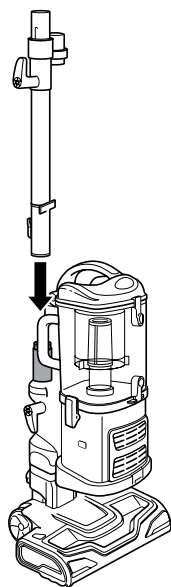

Fig. 9
- 3 Attach the end of the extension wand to the tube on the back of the *Lift-Away* canister until it clicks into place. **(Fig. 9)**